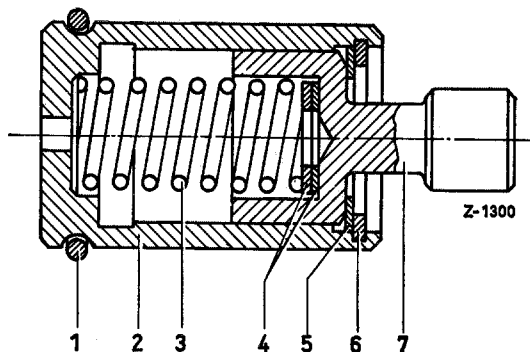

Figure 07-1/1
If the adjustment travel value is too high or too low, the position of the stop pin (7) in the spring capsule housing (2) should be varied by placing washers (5) between stop pin shoulder and lock ring (6) (see Figure 07-1/1).